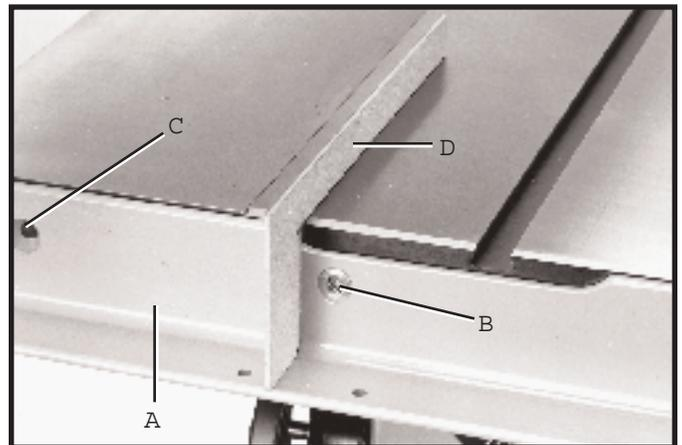
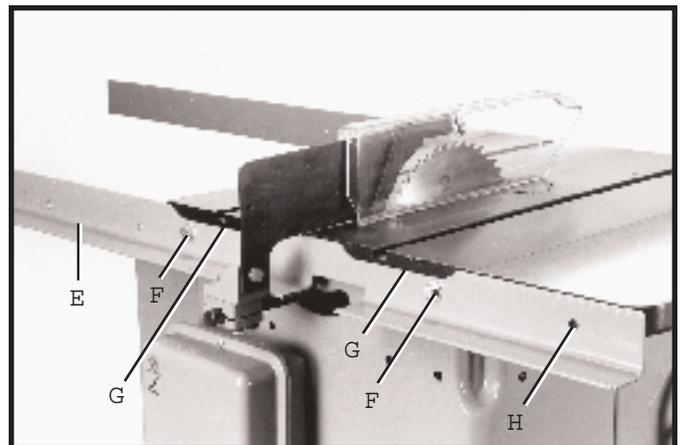

Fig. 7
Fig. 8
4. Assemble rear rail (E) Fig. 8, to rear of saw table using the two 3/8-24 x 1-1/4 long hex head screws (F), 7/8 flat washers and lockwashers as shown. NOTE: When mounting fence to Unisaws, the two screws (F) are threaded into the threaded holes in the saw table, as shown. When mounting fence to 10 Tilting Arbor Saws or 10 Contractor's Saws, through holes are provided instead of threaded holes on the rear edge of the saw table. In this case the rear rail (E) is fastened to the table with the two hex head screws (F) and the flat washers, lockwashers and hex nuts will be inside the rear ledge of the saw table.
5. Make certain top edge of rail (E) Fig. 8 is below table surface and that top edge of cut-outs (G) are below miter gage slots before tightening screws (F).
6. If the table saw is equipped with a left hand sheet metal extension wing, fasten the front rail (A) Fig. 7, to the sheet metal extension wing with the 1-1/4 long flat head Phillips screw through hole (C) Fig. 7, in the front rail and through the slot in the sheet metal extension wing. Fasten the rear rail (E) Fig. 8, to the sheet metal extension wing with the 1-1/4 long hex head screw through hole (H) Fig. 8, in the rear rail and through the slot in the sheet metal extension wing. Fasten both the front and rear rails in place using the flat washers, lock washers and hex nuts supplied.